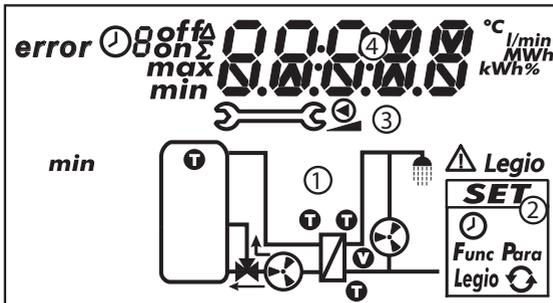

Fig 7: Overview of the display areas (all elements visible)
The following table describes the symbols used in the system graphics (① in fig. 7).
The settings menu (② in fig 7) contains the following entries:
The following table describes the pictograms used for functions (③ in fig. 7).
The display of the operational and setting values (④ in fig. 7) consists of the following elements:
①	Symbol is displayed when an error occurs.
②	Symbol for time control of functions. This symbol is displayed when: <ul style="list-style-type: none"> • a time restriction/control has been set, • the status of time restriction/control is displayed, • the time restriction blocks a temperature control (symbol flashes).
③	Number of the time window that is currently being set/displayed or within which the current time lies. The time control of a function consists of 1 to 3 configurable time windows. Example: Time window 1: 06:00 – 08:00 Time window 2: 11:00 – 12:30 Time window 3: 17:00 – 19:00
④	Additional information: on, off: switching state/condition on , off max, min: maximum value, minimum value Σ: Summed operational value since first commissioning, cannot be reset Δ: Summed operational value since last reset to 0
⑤	Display of: <ul style="list-style-type: none"> • Measurements • Settings • Error codes • Additional information, e.g. software version
⑥	Physical unit of the value displayed in ⑤: °C, K, l/min, %, h, kWh, MWh